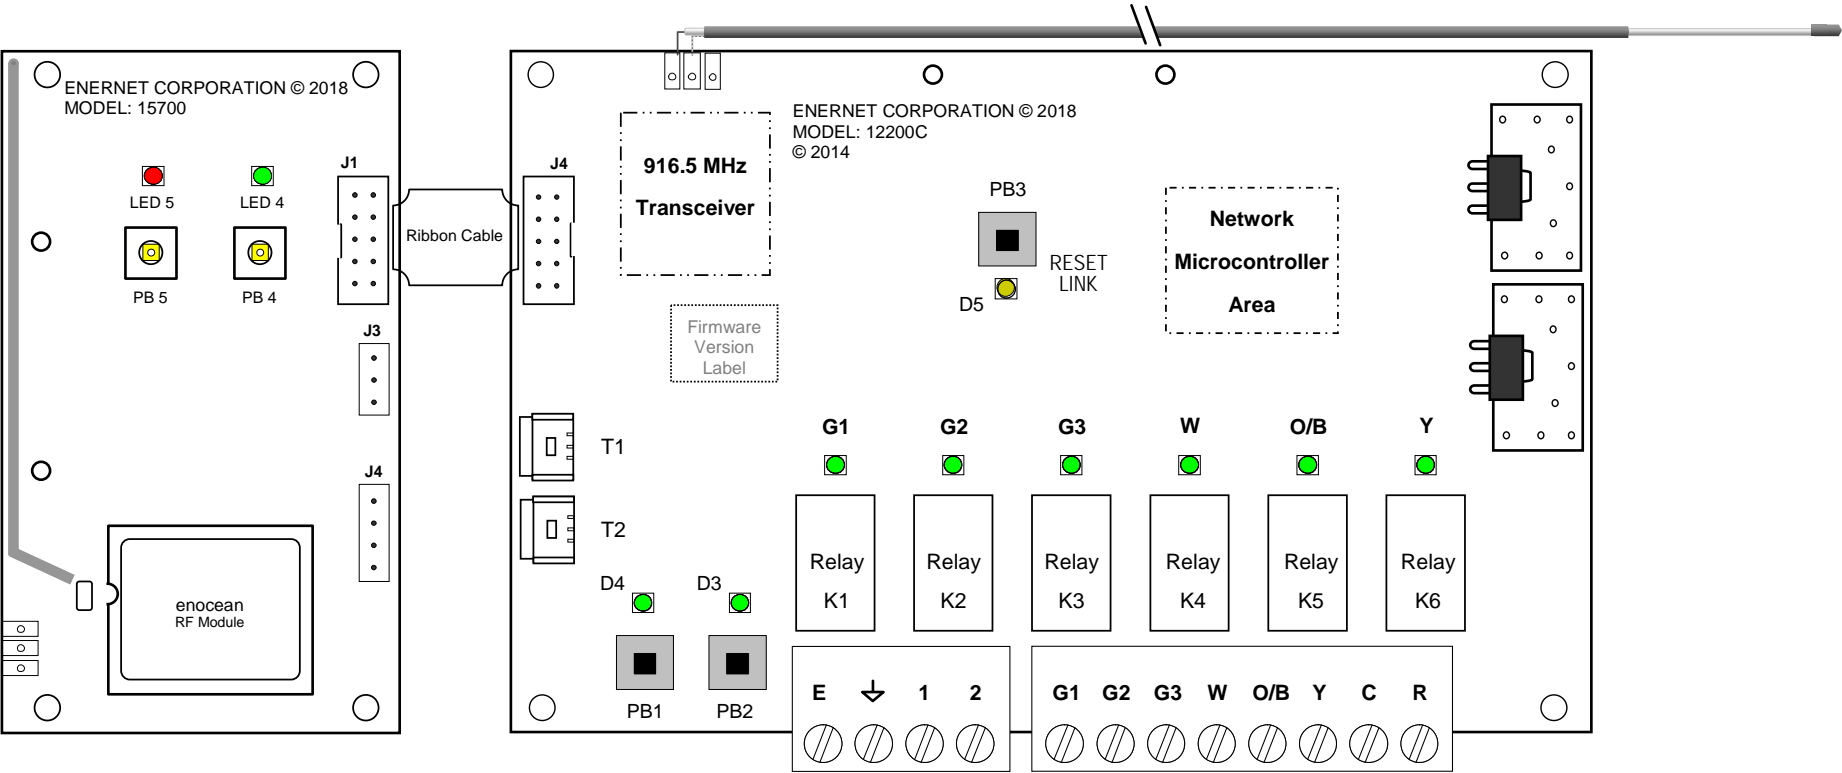
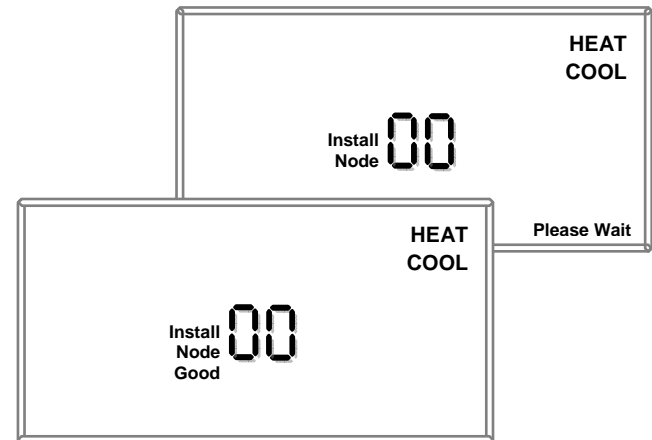

Figure 1 – Model 15700 EnOcean Support Module with 12200C RCN
Figure 3 – Install / Link Display
Selections are indicated through the flash-count of PB4 LED (Green) and PB5 LED (Red). PB5 LED flash-count indicates the Page number in the table that is active. PB4 LED flash-count indicates the operational function to be done in the selected page. (*Refer to Figure 1 for button and LED locations.*)
4. Press PB3 on the Model 12200C board (see Figure 1).
Press and hold the PB3 button 122C09-157 to enter the Configuration Table (see Figure 1) until PB1 & 2 LED's flash alternately. Pressing PB1 moves through pages 1 – 6, PB1 LED indicates configuration page by flash count. PB2 selects the configuration choice in the active page, indicated by a flash count. Press and release PB3 to exit.
The 12200C has two input terminals capable of reading contact closures (see Figure 1). Input 1 (HPMASK) can be used to read when heat pump backup electric resistance element current is flowing — contact closure = CURRENT. If there is another source of heat such as hydronic, the 12200C-157 can optimize, using the heat pump as much as possible. Input 2 (COLDPIPE) is intended to read HOT/COLD pipe status — contact closure = COLDPIPE. This is used in concert with Input 1 to allow or not the use of heat pump backup electric resistance heat.
3. With node number set, press the SW9-LINK button. The “*Please Wait*” message appears on display (Figure 3). Within 5 seconds, press and release PB3 on 12200C-157 PCB (see Figure 1).